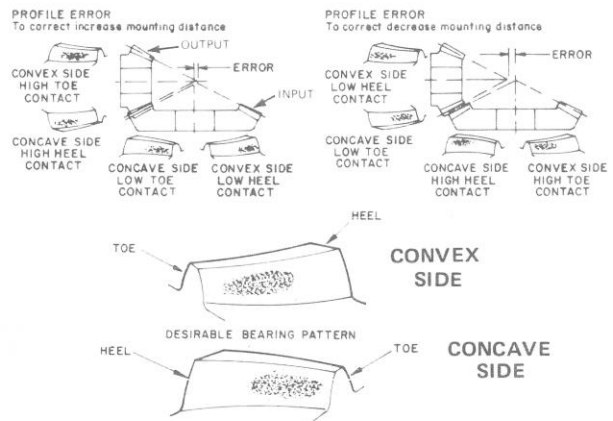

Figure 46
7. Inspect the wear pattern on the gear teeth, compare them to the patterns indicated (Fig. 46). Add or remove shims from output housing to correct any misalignment.